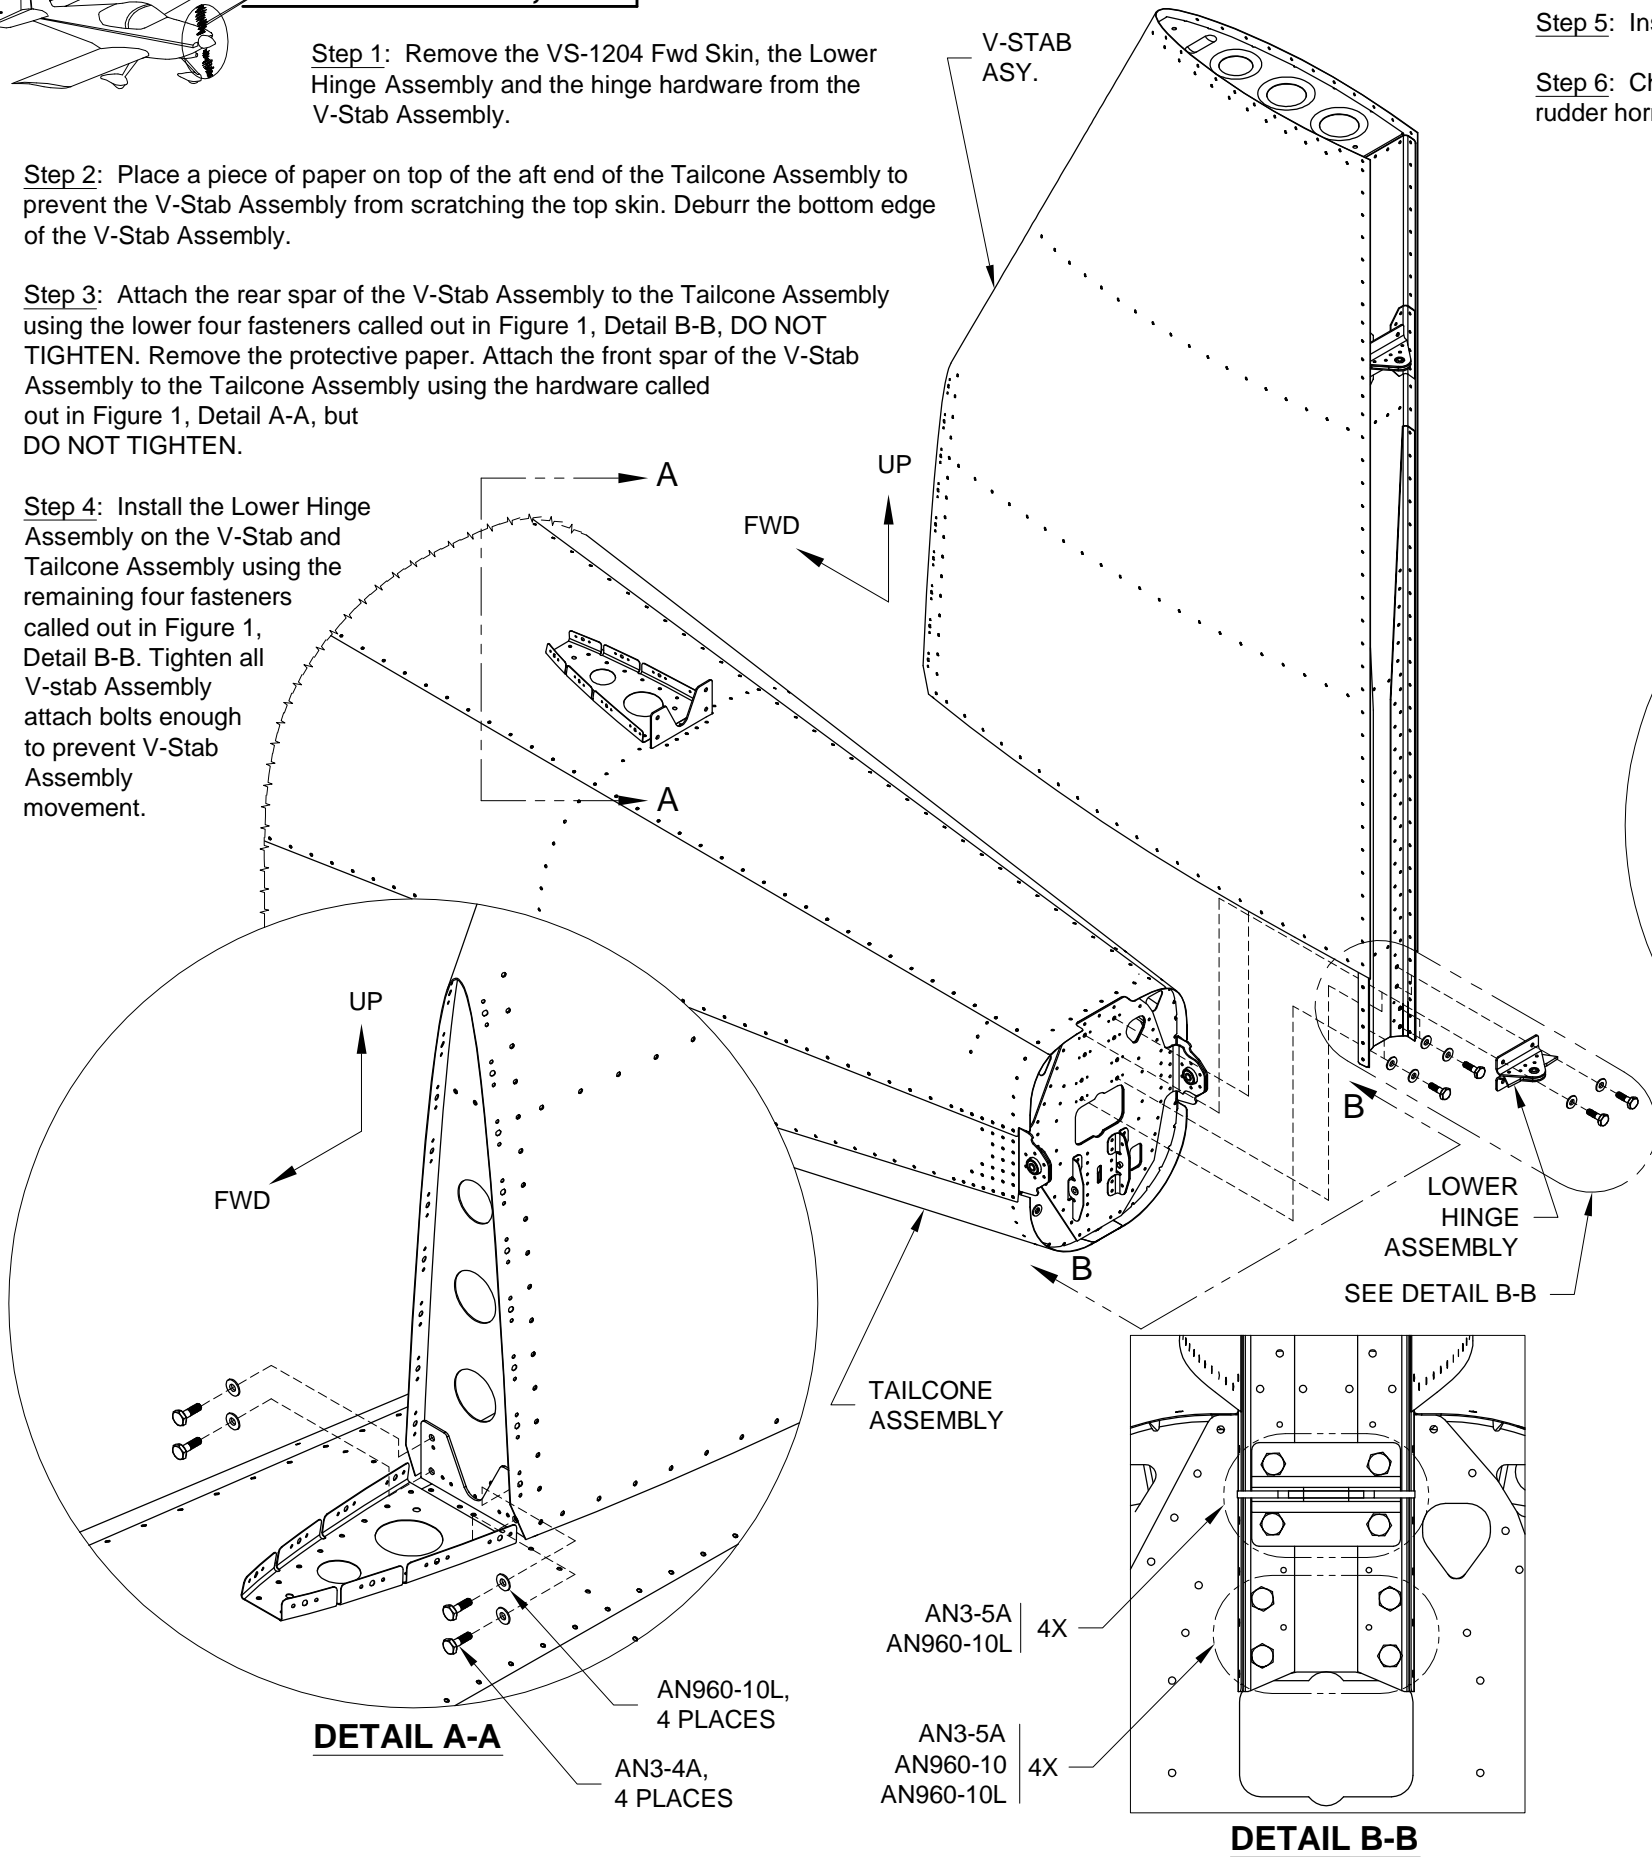

FIGURE 1: V-STAB ASSEMBLY ATTACH
Step 3: Attach the rear spar of the V-Stab Assembly to the Tailcone Assembly using the lower four fasteners called out in Figure 1, Detail B-B, DO NOT TIGHTEN. Remove the protective paper. Attach the front spar of the V-Stab Assembly to the Tailcone Assembly using the hardware called out in Figure 1, Detail A-A, but DO NOT TIGHTEN.
Step 4: Install the Lower Hinge Assembly on the V-Stab and Tailcone Assembly using the remaining four fasteners called out in Figure 1, Detail B-B. Tighten all V-stab Assembly attach bolts enough to prevent V-Stab Assembly movement.